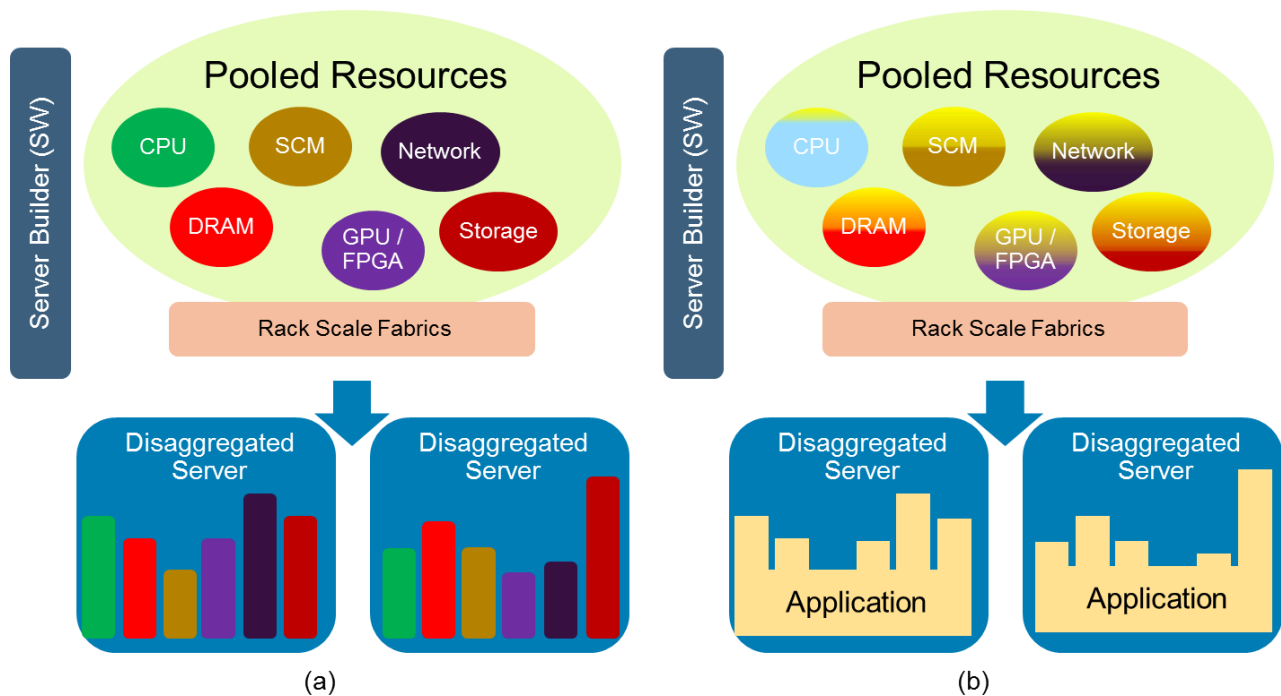

Figure 3: Disaggregated Servers
The goals of Server Disaggregation are to further improve the utilization of data center server resources and to add to operational efficiency and agility. Figure 3 illustrates the Server Disaggregation concept. In the fully disaggregated server model, resources typically found in servers are grouped together into common resource pools. The pools are connected by one or more high-speed, high-bandwidth, low latency fabrics. A
When an administrator or a higher-level orchestration engine needs a server for a specific application, it sends a request to the Server Builder with the characteristics of the needed server (e.g., CPU, DRAM, persistent memory (SCM), network, and storage requirements). The Server Builder draws the necessary resources from the resource pools and configures the rack scale fabric to connect the resources together. The result is a disaggregated server as shown in Figure 3 (a), a full bare-metal, bootable server ready for the installation of an operating system, hypervisor and/or application.
- *Liberation of Unused Resources*: Unused resources are no longer trapped within the traditional server chassis. These resources are now available to all disaggregated servers for capability expansion or to be used for the creation of additional servers (see Figure 3 (b)).